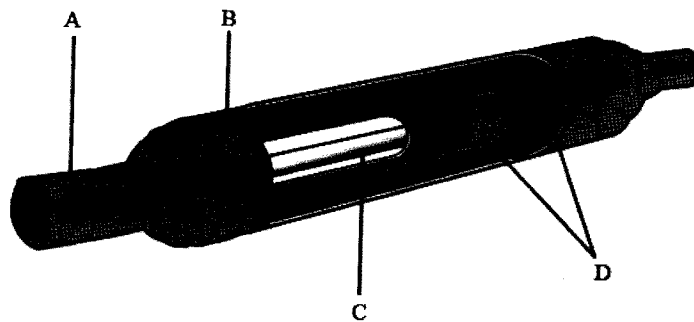

Figure 2
12. (a) Figure 2 shows a component of a vehicle system.